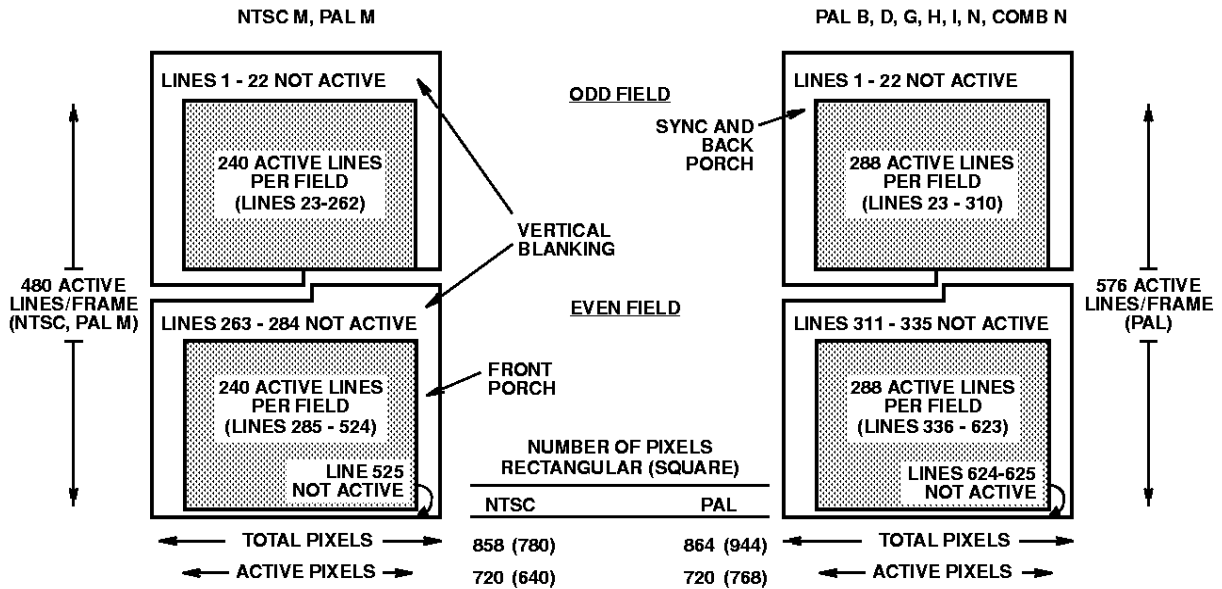

FIGURE 13. ACTIVE VIDEO REGIONS
In 16-bit Pixel Transfer Mode pixel data is output at the CLK frequency and Table 3 shows the number of data points per video line to expect for a given standard. Data is output as 4:2:2 subsampled data in a Y-Cb/Y-Cr 16-bit sequence. The Data Valid (DVLD) flag is asserted when video data is present on the 16-bit output port (Y[7:0], CbCr[7:0]). The luminance data is output on Y[7:0] bus. Chrominance data is sequenced on the CbCr[7:0] bus, starting with Cb and then Cr. Per Figure 13, the ACTIVE flag is asserted when the active video portion of the horizontal scan line is present on the data output port. See Figure 14 for 16-Bit Pixel Transfer Mode timing. DVLD is asserted every time the output sample rate converter has a valid output. When DVLD and ACTIVE are used together the visual portion of the image can be captured. When DVLD is used alone all valid data during the Horizontal, Vertical and Reference Burst Timing are available.
2. ACTIVE is asserted per Figure 13.
6. DVLD is asserted for every valid pixel during the active region only per Figure 13. DVLD may deassert briefly during the active video region as the Output Sample Rate converter adjusts the output timing for various data rates and clock frequency inputs.